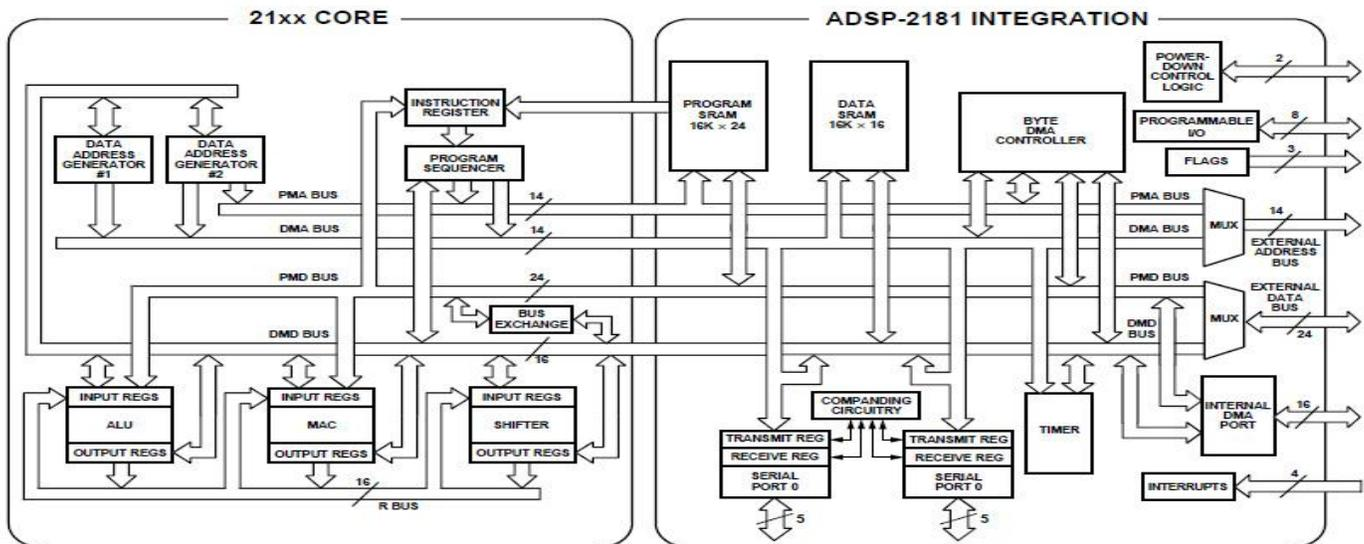

Figure 1. ADSP-2181 Block Diagram
The ADSP-2181 instruction set provides flexible data moves and multifunction (one or two data moves with a computation) instructions. Every instruction can be executed in a single processor cycle. The ADSP-2181 assembly language uses an algebraic syntax for ease of coding and readability. A comprehensive set of development tools supports program development. Figure 1 is an overall block diagram of the ADSP-2181. The processor contains three independent computational units: the ALU, the multiplier/accumulator (MAC) and the shifter. The computational units process 16-bit data directly and have provisions to support multiprecision computations. The ALU performs a standard set of arithmetic and logic operations; division primitives are also supported. The MAC performs single-cycle multiply, multiply/add and multiply/subtract operations with 40 bits of accumulation. The shifter performs logical and arithmetic shifts, normalization, denormalization and derive exponent operations. The shifter can be used to efficiently implement numeric format control including multiword and block floating-point representations. The internal result (R) bus connects the computational units so that the output of any unit may be the input of any unit on the next cycle.